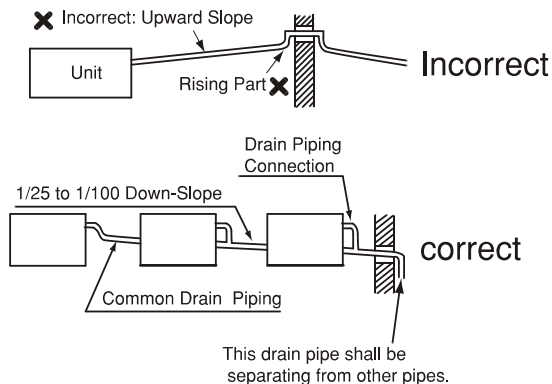

Fig. 6.1 Drain Piping
- (1) The position of the drain piping connection is shown in Fig. 6.1.
- (2) Prepare polyvinyl chloride pipe with a 32mm outer diameter.
- (3) Fasten the tube to the drain hose with the adhesive agent and the field-supplied clamp. The drain piping must be performed with a DOWN-SLOPE pitch of 1/25 to 1/100.
- (4) Insulate the drain pipe after connecting the drain hose.